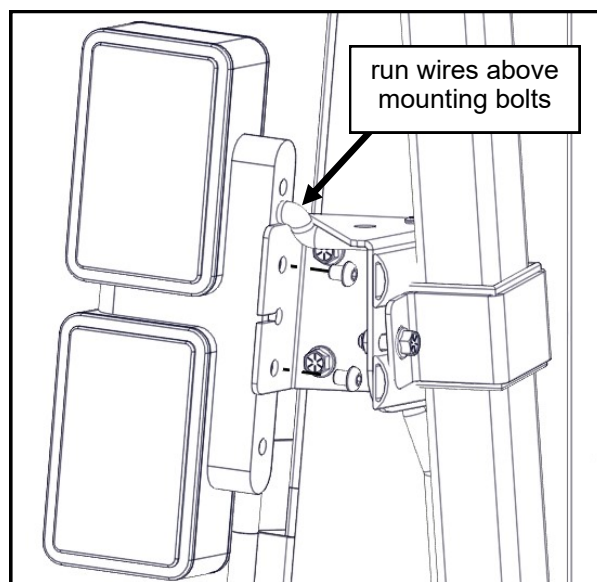

Fig. 23.2 (Rear Signal Light Installation)
**23.2** Run the light wires above the top mounting holes. Secure the lights to the mounts with the supplied M8 button head screws. See Fig. 23.2